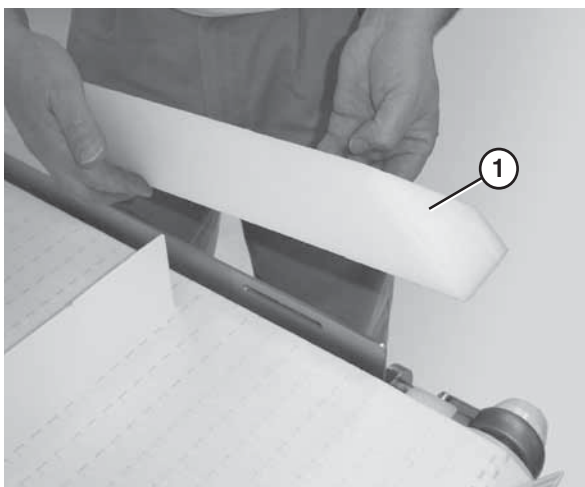

Figure 58
2. Remove the guide (Figure 58, item 1).